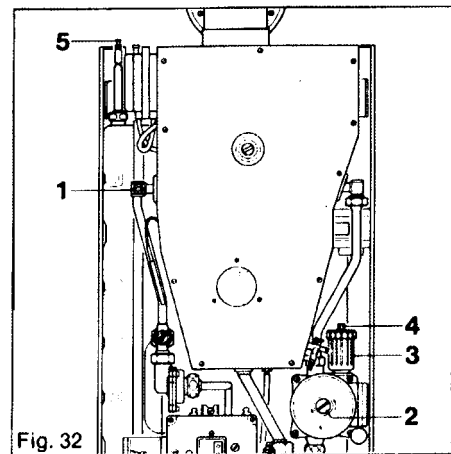

Fig. 32
For venting the boiler, back off the screw on the heat exchanger (1, Fig. 32) (see 13.4 to gain access), on the expansion vessel (5), and the circulating pump (2) by about 1-2 turns.